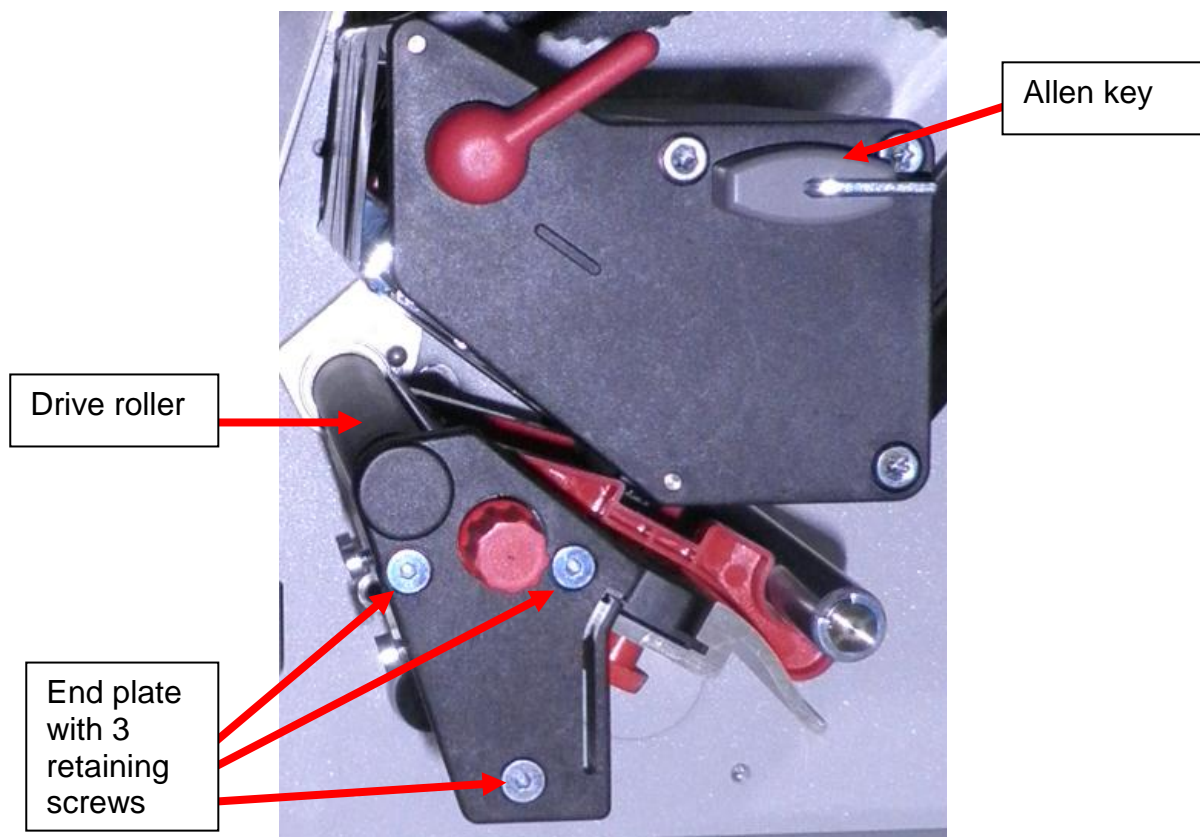

Figure 2 – End plate for TE3124/3112 printers
2.2. Using the Allen key provided with the printer, remove the three screws holding in the end plate, as shown in Figure 2.